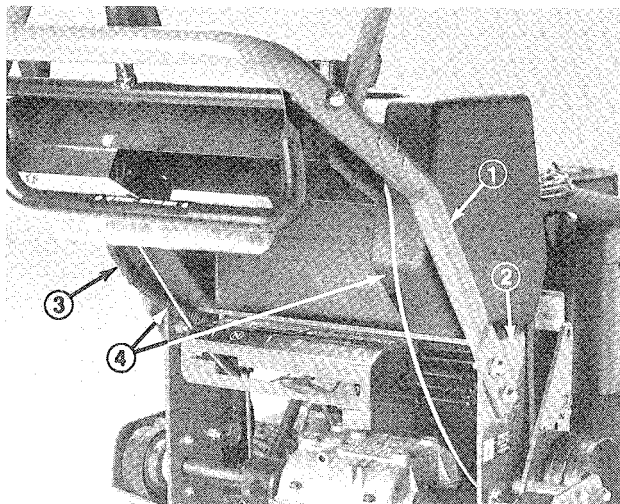

Figure 4
1. Align upper handle mounting holes with desired mounting holes in frame (upper or lower set of holes) and secure each side with (2) 3/8 – 16 x 1" lg. flange capscrews and flange nuts (Fig. 4). Torque capscrews to 23–27 ft. – lbs. Route cables and wire harness inside of frame (Fig. 4)